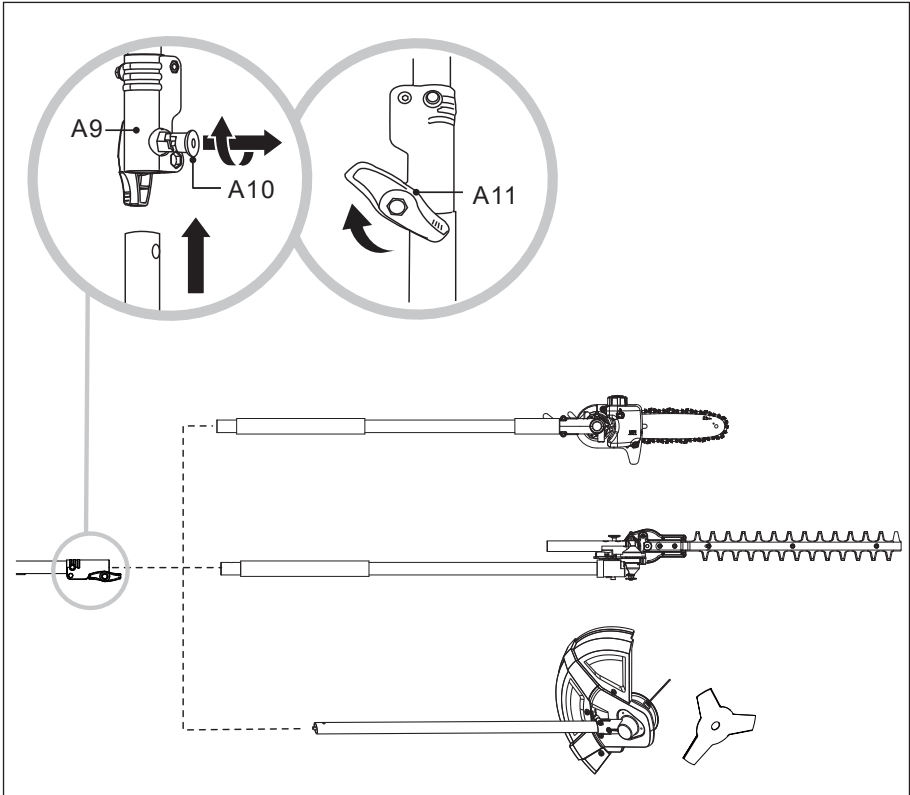

Fig. 2
- b). Pull out and rotate the locking pin (A10) on the shaft clamp (A9) anticlockwise to stop at the bracket. Insert the shaft tube of the attachment into the upper drive shaft tube (Fig. 2).